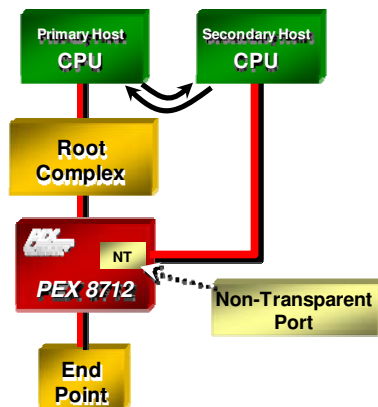

Figure 3. Non-Transparent Port
In Single-Host mode, the PEX 8712 supports a **Non-Transparent (NT) Port**, which enables the implementation of **dual-host systems** for redundancy and host failover capability. The NT port allows systems to isolate host memory domains by presenting the processor subsystem as an endpoint rather than another memory system. Base address registers are used to translate addresses; doorbell registers are used to send interrupts between the address domains; and scratchpad registers (accessible by both CPUs) allow inter-processor communication (see Figure 3).